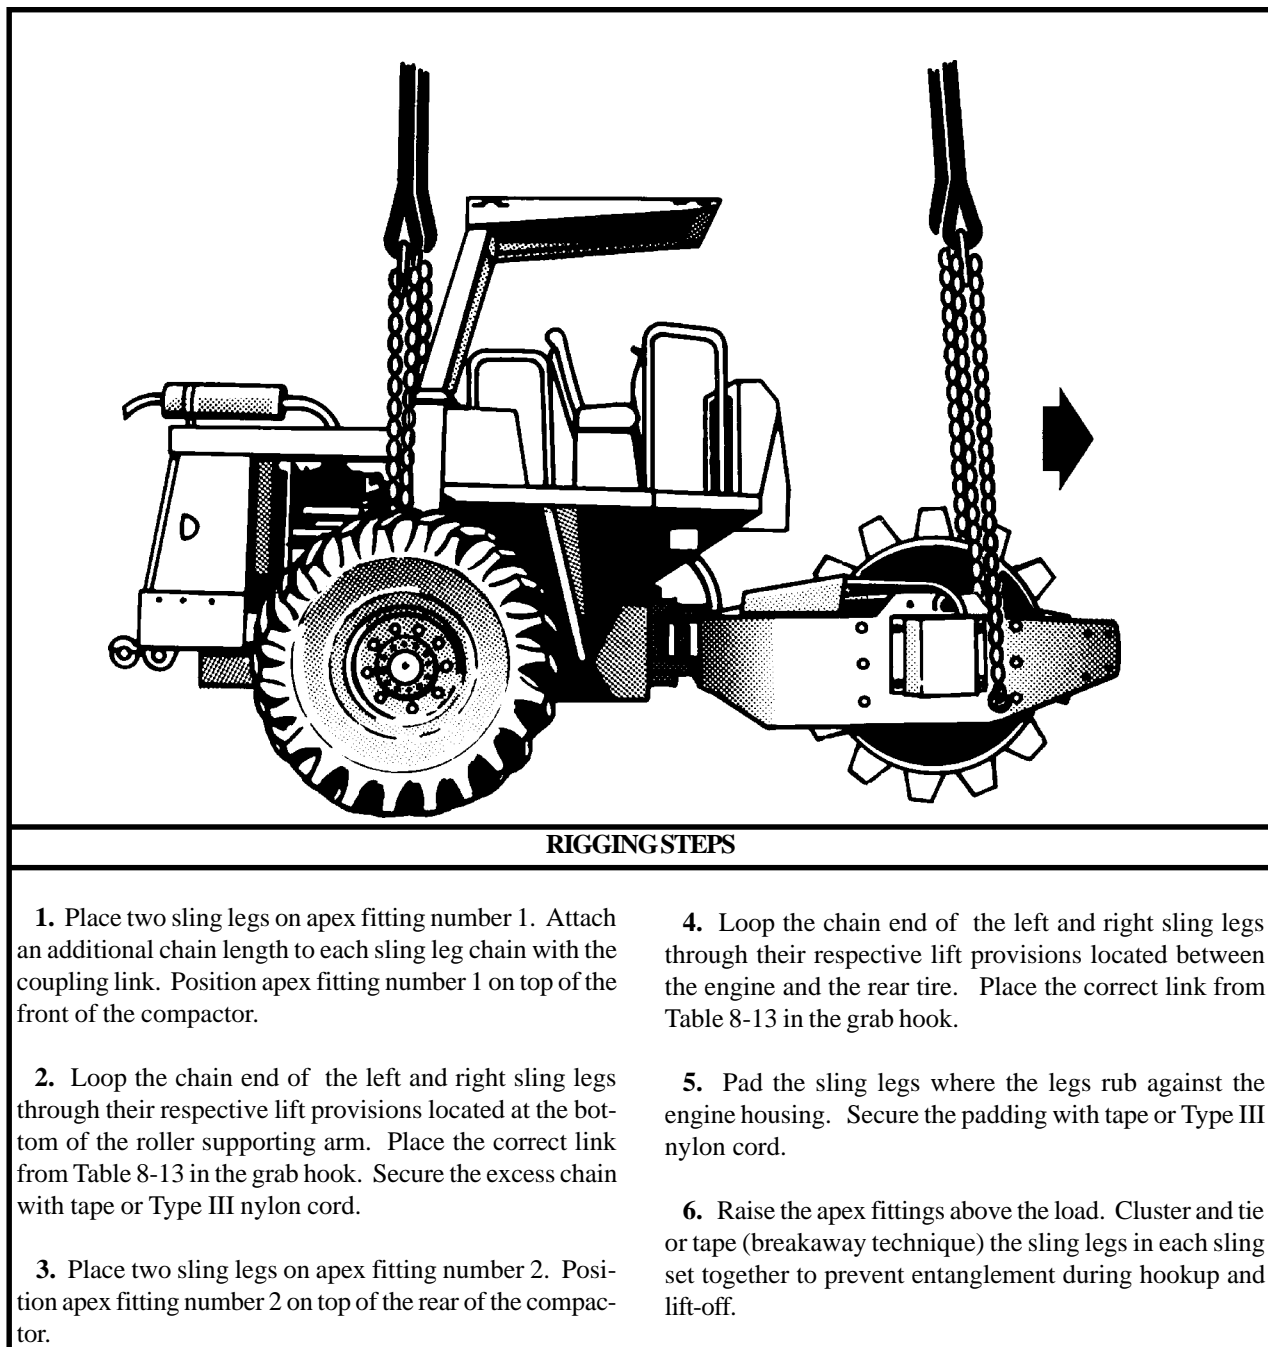

Figure 8-13. Roller, Compactor, Vibrator
(2) **Rigging.** Rig the load according to the steps in Figure 8-13.
(4) **Derigging.** Derigging is the reverse of the preparation and rigging procedures in steps d (1) and d (2).